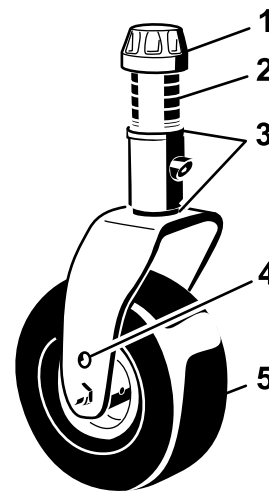

Figure 20
3. Position the castor wheel axles in the same holes in both castor forks (Figure 20).
4. Remove the tensioning cap from the spindle shaft (Figure 20) and slide the spindle out of the castor arm.